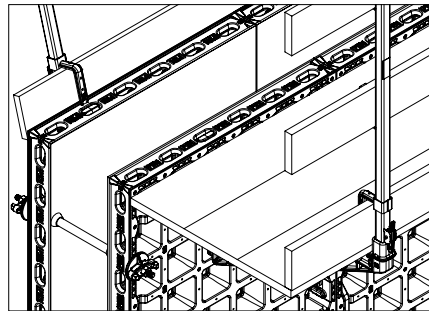

Fig. B4.03a
(Fig. B4.03a)
4. Install planking across the whole area by screwing it in from below, ensuring there are no gaps; see section B4 DUO scaffold bracket. (Fig. B4.03a)